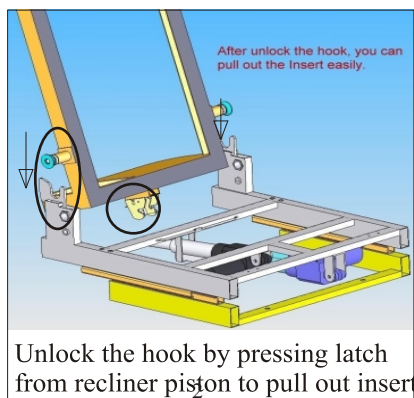

Fig.1
1. Make a hole (size 1-3/8") for the On/Off switch as shown (see fig 1). Pre-drill required.
- * On the lower portion of both side of the backrest, there are pivots (Fig.1)
- * Figure 1: shows Pivot and “U”pivot frame at correct alignment / be sure to clear wire